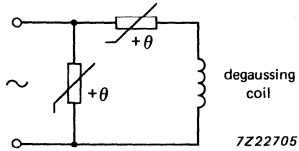

Fig.27 Dual PTC.
- Two PTC's may be used to reduce the final steady coil current to a very low value (see Fig.27). The second PTC acts as a heater to increase the resistance of the series PTC. This is known as a DUAL degaussing PTC.